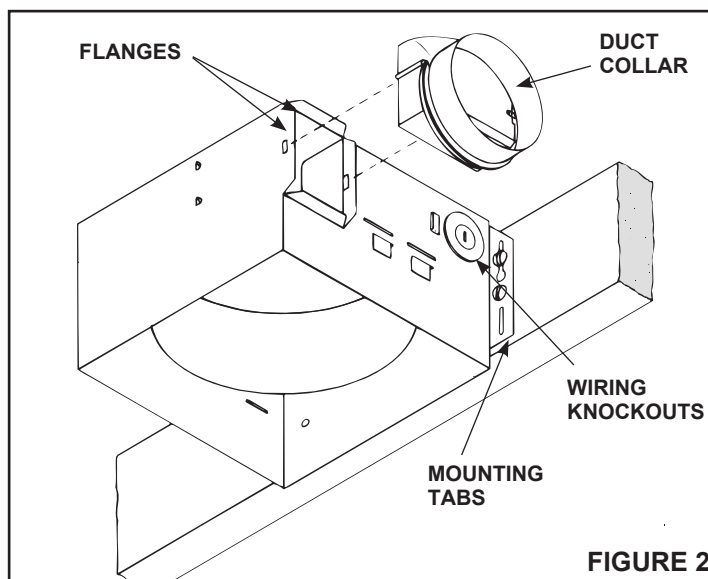

FIGURE 2
Refer to Figure 2.
1. **Refer to Figure 2.** Place duct collar over flanges at discharge opening of fan. Secure collar by snapping tabs into slots in flanges.